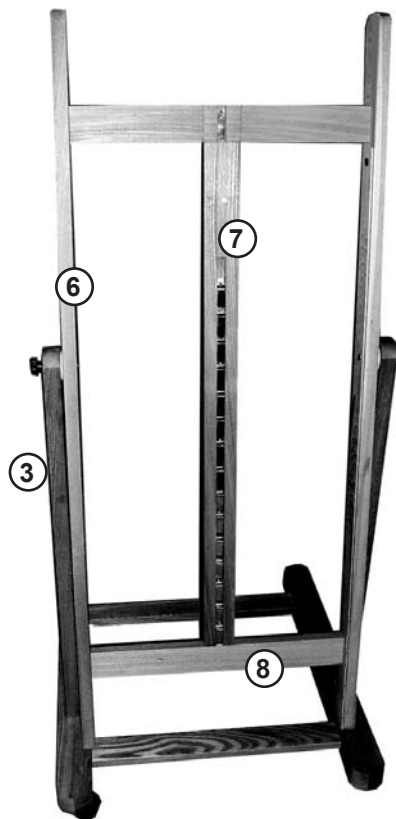

FIG 12
STEP 12. Attach assembled H-Frame to easel uprights found on assembled base. Make sure the metal ratchet front is facing out towards the front of the easel. This step involves securing the H-Frame assembly to the uprights of the easel base as shown in FIG 12.